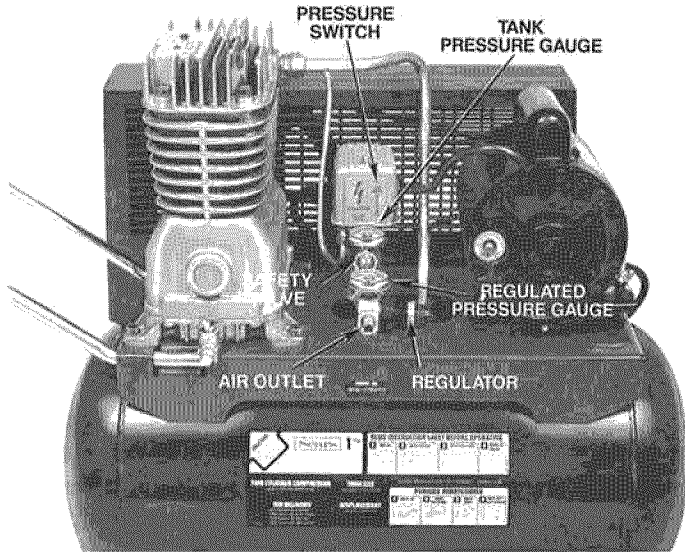

Figure 3
The manifold (28) is located on the top of the unit between the motor and air compressor pump. On the manifold is the pressure switch (20), safety valve (29), regulator (46) and pressure gauge (27). The gauge shows the air tank pressure. The air pressure coming from the air tank is controlled by the regulator knob. Turn the knob clockwise to increase pressure and counterclockwise to decrease pressure. Refer to Figure 3. To avoid minor readjustment after making a change in pressure setting, always approach the desired pressure from a lower pressure. When reducing from a higher to a lower setting, first reduce to some pressure less than that desired, then bring up to the desired pressure. Depending on the air flow requirements of each particular accessory, the outlet regulated air pressure might have to be adjusted under flow conditions.